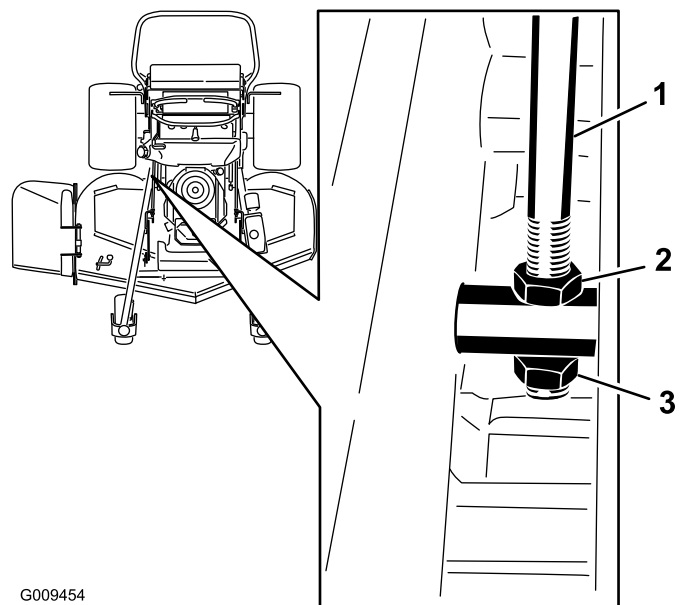

Figure 83
5. If it does not measure correctly, locate the height-of-cut rod on the right side of the machine (Figure 83).
6. Loosen the jam nut and adjust the adjustment nut until the blade tips match 3 inches (7.6 cm) (Figure 83).
7. When the adjustment is correct, tighten the jam nut (Figure 83).